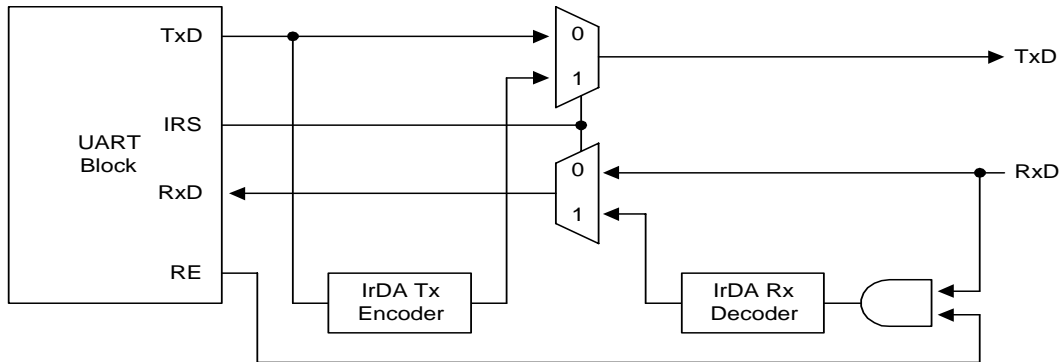

Figure 31-4 IrDA Function Block Diagram
The S3C6400 UART block supports infra-red (IR) transmission and reception, which can be selected by setting the Infra-red-mode bit in the UART line control register (ULCONn). Figure 31-4 illustrates how to implement the IR mode.